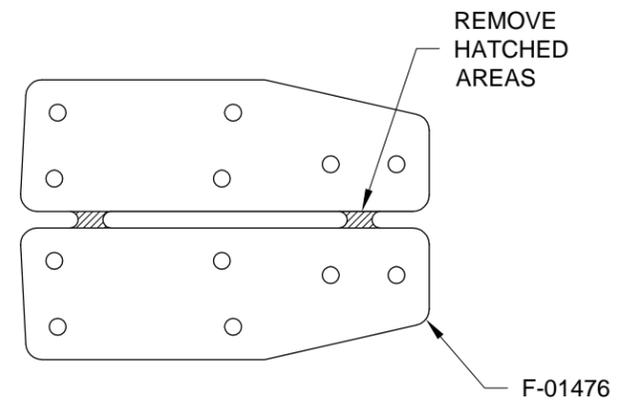

FIGURE 2: SEPARATE PANEL ATTACH PLATES
Step 3: Separate the F-01476 Instrument Panel Attach Plates as shown in Figure 2.